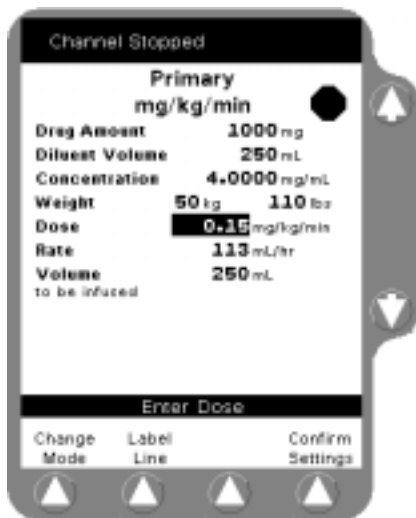

Figure 5-21 Confirm Settings
- After completing all required entries, verify that all displayed values are appropriate and press the **Confirm Settings** soft key (Figure 5-21).